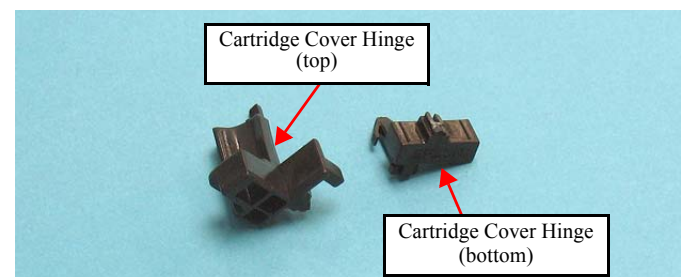

Figure 4-43. Cartridge Cover Hinge
4. Release the hooks of the lower half of the Cartridge Cover Hinge with tweezers, and remove the lower half of it. (See Figure 4-43)